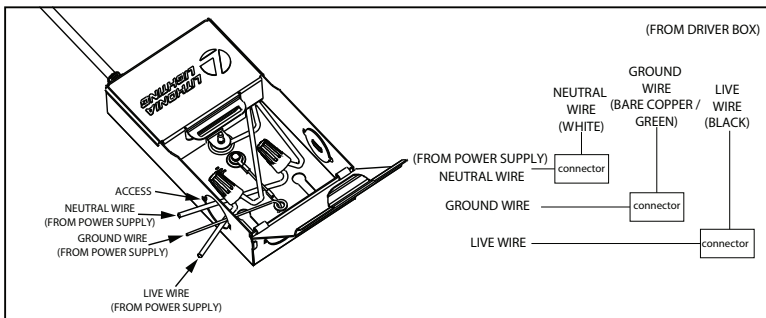

Figure 2 / Figura 2 / Schéma 2
- Connect black wire to live wire, white wire to neutral wire, and copper wire with ground (as shown) and secure using connector. Close the cover of the box. (Figure 2)